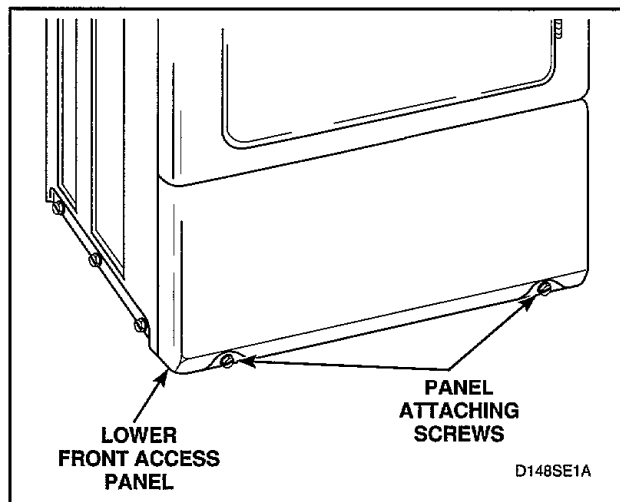

Figure 52
- While supporting the lower access panel, remove two screws from bottom edge of lower front access panel, *Figure 52*.